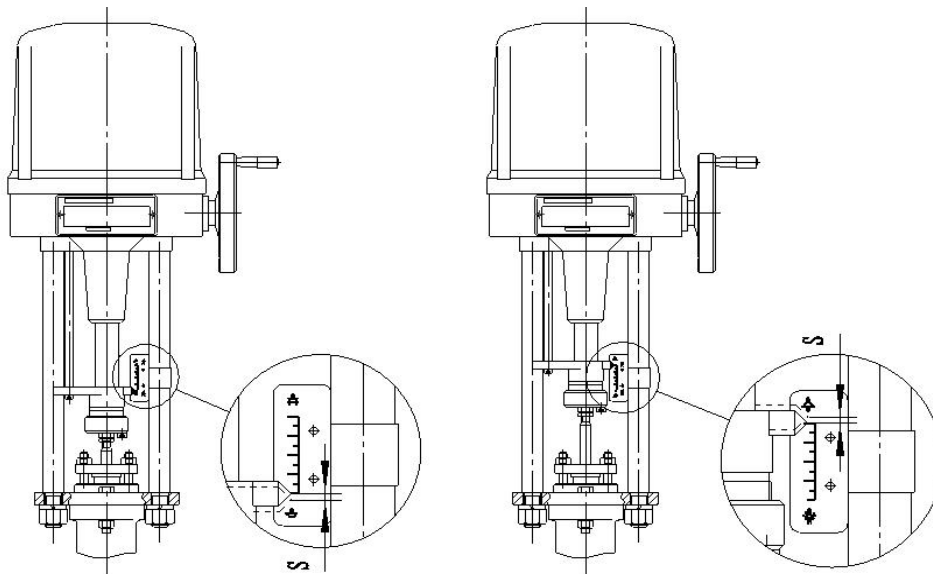

Figure8 Flexible stroke [S] adjustment reference diagram
The adjustment of the elastic stroke [S] is shown in figure 8. The adjustment method of elastic stroke [S] for positive and negative actions of regulating valves is described as follows:
When the valve is a lower closing valve, as shown in left picture in figure 8;
When the valve is the upper closing valve, as shown in right picture in figure 8;
(1) For the straight valve, first set the closing position according to the off-force/stroke, and then set the opening position according to the rated stroke of the valve.
(2) For the three-way valve, set two terminal positions according to the off-force/stroke, and then determine the actuator limit switch according to the off-force/stroke.
(3) Electric actuator handwheel operation, make the valve core contact seat, when the stem begins the axial action, the stem force is the reaction force from the butterfly spring (but manual limit is not recommended).
(4) continue to manually operate in the same direction to make the valve stem downward, butterfly spring is compressed to the corresponding value of the actuator shown in figure 8, to ensure the required shutdown force and prevent leakage (but manual limit is not recommended).
(5) the product debugging after the connection of the actuator and the regulating valve installation must be conducted in three synchronizations: the position of the regulating valve, the position of the stroke switch, and the position of the corresponding signal.